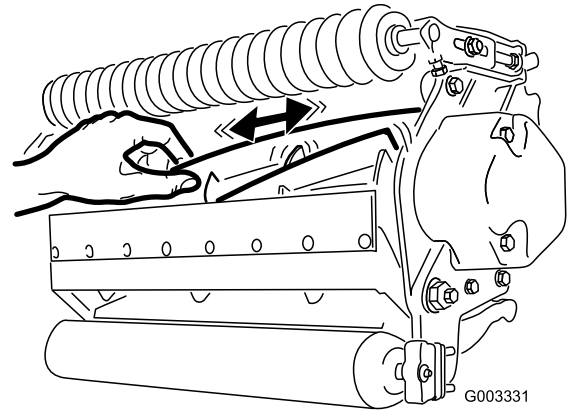

Figure 28
2. Using a rag or thickly padded glove, hold on to the reel blade and try to move the reel assembly side to side (Figure 28).